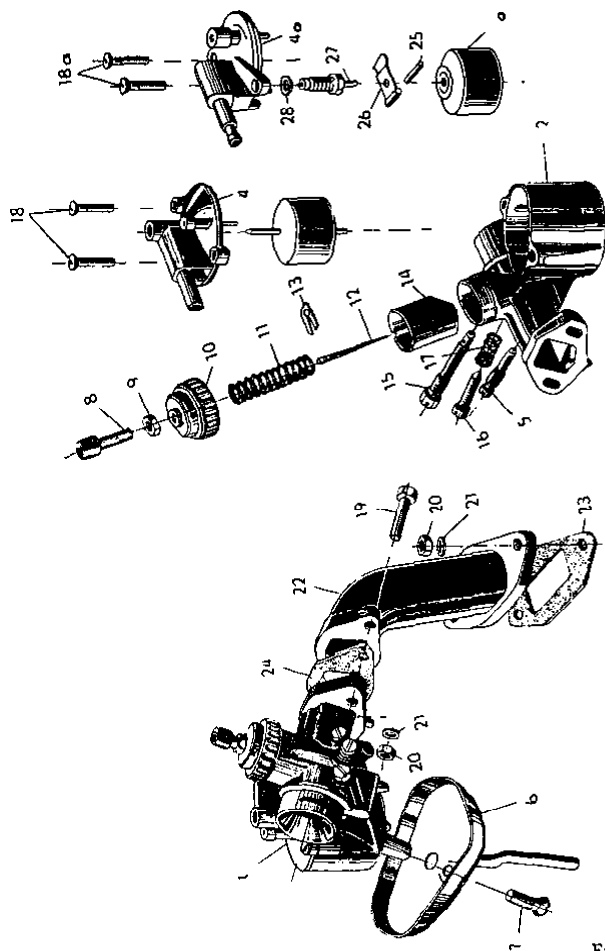

Fig. 15
23. Disassembly and assembly the carburettor 2917 PSb (fig. 15)
24. Cleaning and maintenance of carburettor (fig. 15)